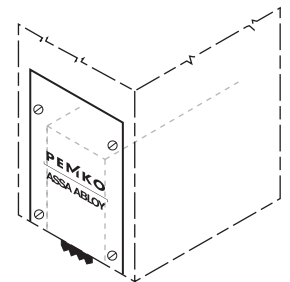

Figure 1
3. Install the flat end plate on the lock edge of the door so that it is flush with the bottom edge of the door. Use the fasteners provided, and in the location shown (Figure 1). Fasteners will screw directly into door.